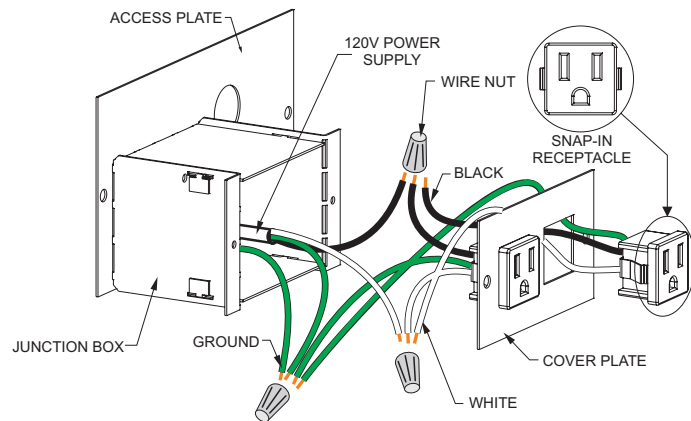

Figure 38
3. Snap in the receptacles to the cover plate as shown in **Figure 38.**
4. Run 14/2 NM-B with ground or 12/2 NM-B with ground wire through the electrical access panel into the Junction box. Secure wiring with the wire connector as required and install the two receptacles as shown in **Figure 38.** Attach the black wires with a wire nut, and the white wires with a wire nut. Secure the incoming ground wire and green receptacle ground wires under the green ground screw provided in the junction box. Install the Junction box cover.